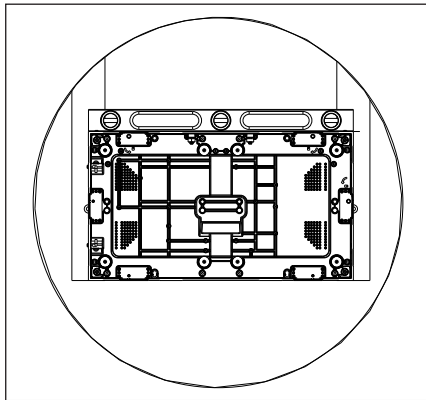

Figure 2: Mark Mounting Hole Locations in First Panel
- 3. Mark the mounting holes in the first panel for pre-drilling. Refer to **Figure 2**.